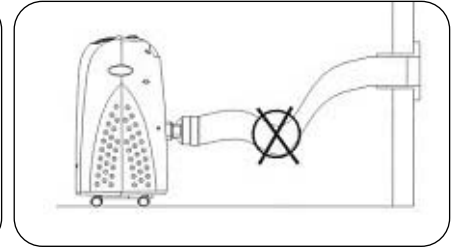

FIG.10
**NOTE:** For best results do not exceed a 45° angle. ( Fig 10)